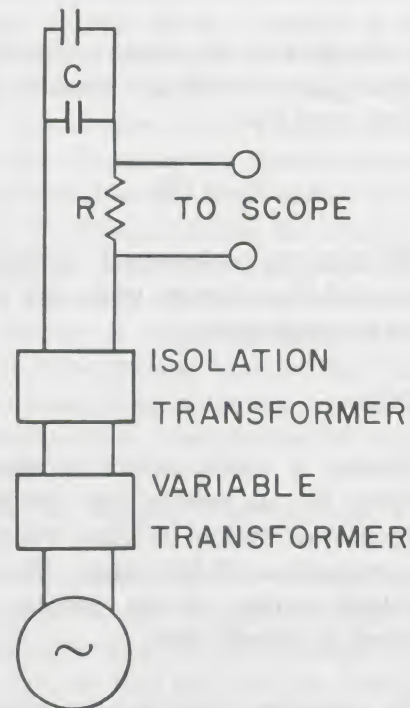

Figure 20.
12. Replace the single capacitor by two capacitors connected in parallel (see Figure 20) and again measure the voltage  $V_R$  across the resistor. How does this